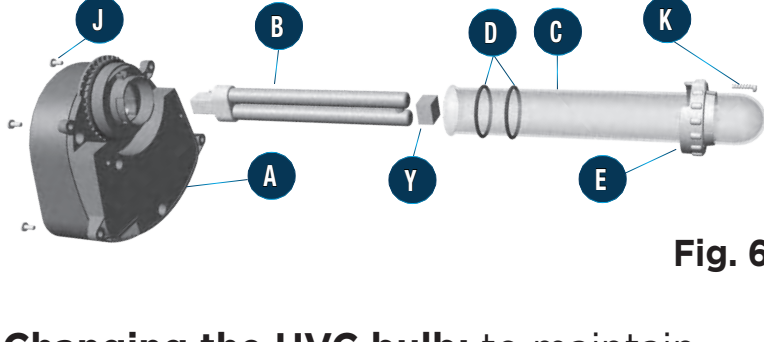

Fig. 6
4. Remove the UVC head (A) (**Fig. 6**) from the filter by unscrewing the 4 screws (J) that fasten the UVC head to the filter lid (G). UVC Head is equipped with anti-loss screws. You do not need to completely remove the screws. Just unscrew them until the UVC Head is disengaged.
5. At this stage it is possible to clean the quartz sleeve (C), if required. To clean the quartz sleeve, use a damp soft cloth to wipe away limescale and debris. In case of stubborn dirt, some vinegar may be used. Do not use detergents or other chemical cleaners. If it is not necessary to change the UVC bulb, go straight to point #10.
6. To access the UVC bulb (B), remove the Quartz Sleeve (C) by first unscrewing, about 3 turns, the security screw (K) of the Retaining Flange (E) that fasten it to the UVC head. Afterwards turn the Retaining Flange approx 30 deg counterclockwise until the screw is aligned with the arrow present in the UVC head and pull to disengage it from its place. Important: the Retaining Flange is equipped with one anti-loss safety screw. There is no need to remove the screw completely. Just unscrew the screw until the Retaining Flange is free to be turned and disengaged from its position.
8. Once the Quartz Sleeve is removed, pull out the UVC bulb (B) away from the bulb holder and replace it with a new one. **WARNING - DO NOT ATTEMPT TO VIEW THE BULB WHEN LIT!** Direct exposure to ultraviolet light can damage eyes and skin. Do not test the UVC bulb unless the filter is fully assembled and closed. **IMPORTANT** – Use original Fluval Pond spare parts only
9. Place the Quartz Sleeve (C) and the two O-rings (D) back in their original position. It is recommended to lubricate the O-Rings with an inert lubricant.